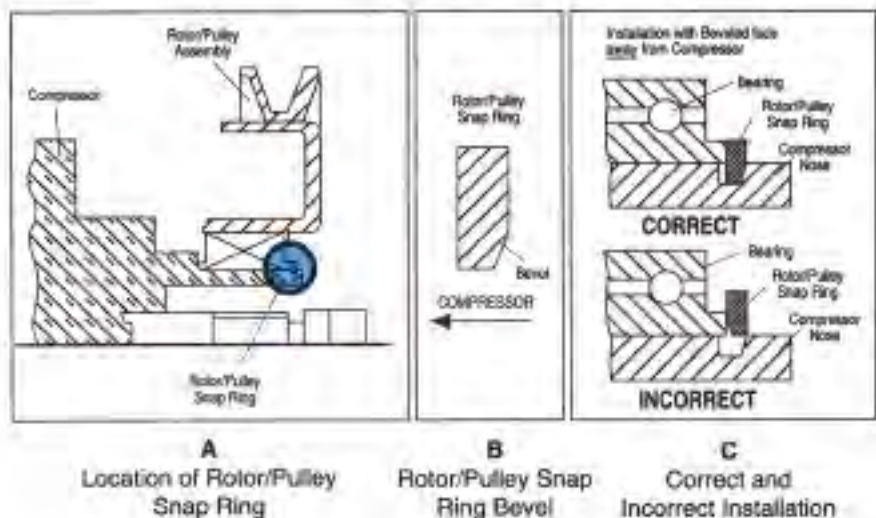

Figure 19
- ⚠ Be sure to install the rotor/pulley snap ring. See Figure 19. Idle the engine and listen for noise. Does the noise continue?